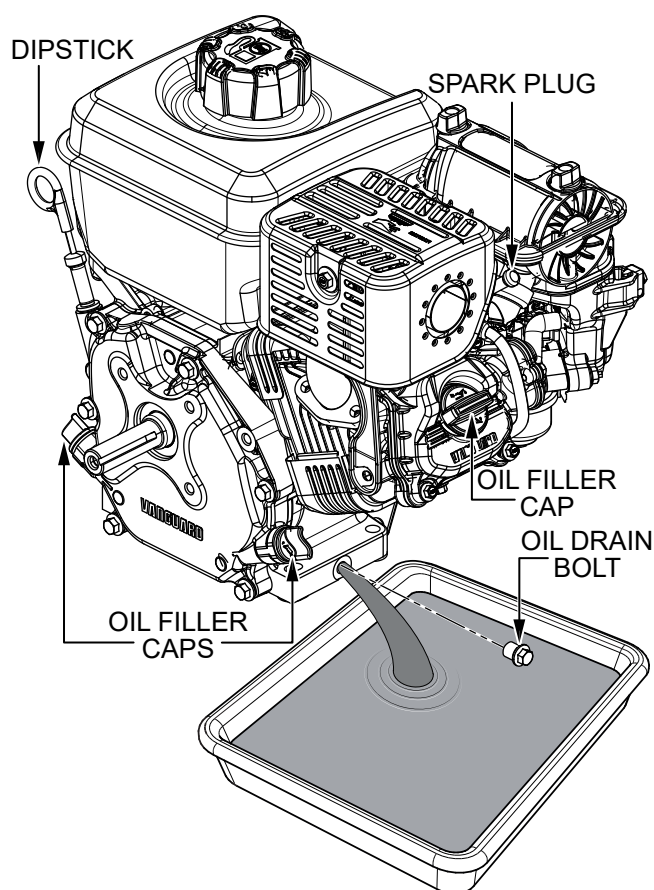

Figure 17. Draining Engine Oil
1. With the engine off but still warm, disconnect the spark plug wire and keep it away from the **spark plug** (Figure 17).
2. Remove the **engine oil dipstick** (Figure 17).
3. Remove one of the **oil drain bolts** (Figure 17) and allow the engine oil to drain into a suitable container.
5. Remove one of the **oil filler caps** (Figure 17) and fill with the recommended oil type listed in Table 6. Maximum engine oil capacity is 1.0 quarts (0.95 liters). **DO NOT** overfill.